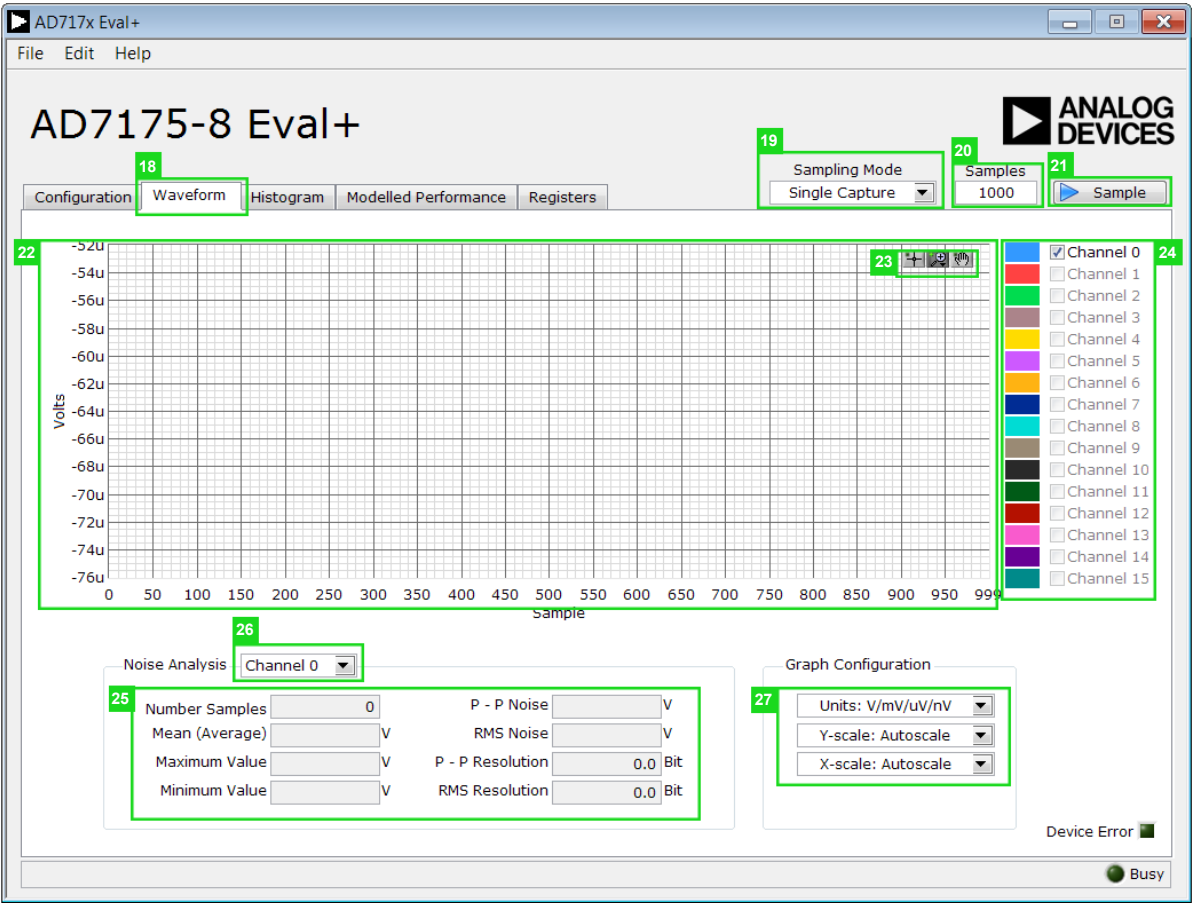

Figure 18. **Waveform** Tab of the AD7175-8 Evaluation Software
Figure 18 shows the **Waveform** tab of the AD717x Eval+Software.
**Sample (21)**
Click the **Sample** button to start gathering ADC results. Results appear in the waveform graph (22). See Figure 18.
The data waveform graph shows each successive sample of the ADC output. Zoom in on the data using the control toolbar (labeled 23 in Figure 18). Click the x-axis and y-axis to change the scales on the graph.